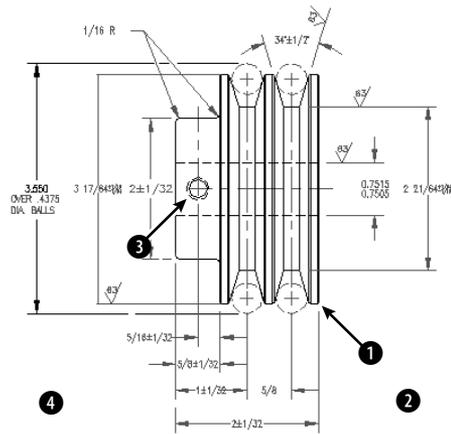

Figure 14-27: A set of pulleys.
2. Save the file as ab14-06.dwg in your AutoCAD Bible folder. This is a drawing of a set of pulleys, as shown in Figure 14-27. If the Dimension toolbar isn't visible, right-click any toolbar and check Dimension. OSNAP should be turned off.
Specify first leader point, or [Settings]<Settings>: Pick ① in Figure 14-27 (near but not on the drawing object).
- Repeat the QLEADER command. Pick points **3** and then **4** in Figure 14-27. Right-click or press Enter. At the Specify text width <2>: prompt, press Enter to use the same width as previously. At the Enter first line of annotation text <Mtext>: prompt, type **DRILL 'F' HOLE**. Press Enter twice to end the command and place the leader.